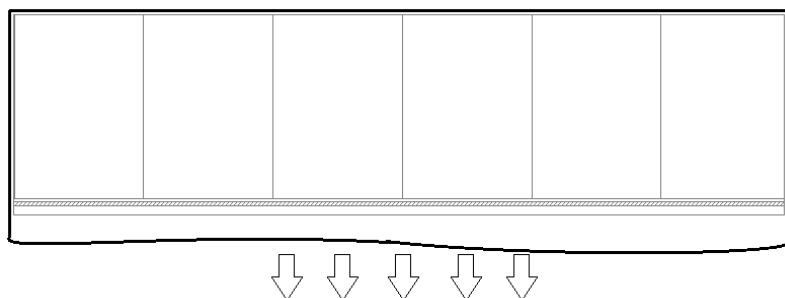
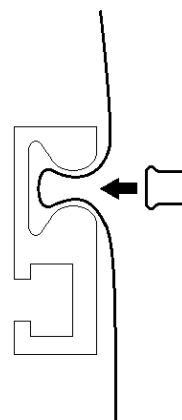

Fig122
Fig123
- **STEP 2:** Tension the polythene down to the base rail on one side starting in the middle – This is best done with one person at a hoop either side of centre (**Fig122**). Do not over tension, but when the cover is smooth from the ridge down to the rail, insert one of the plastic 'U' profiles into the cover slot on the rail (**Fig123**). A rubber hammer is preferred for this job as standard metal ones may crack the plastic profile.